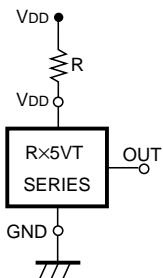

FIG.9
1. When Rx5VT×C (CMOS Output) is used in FIG. 9, this IC may oscillate by the through-type current at the detection when impedance is connected between Power Source VDD and Rx5VT VDD Pin. When Rx5VT×A (Nch Open Drain Output) is used in FIG. 9, and R becomes excessively large, Detector Threshold may be varied because of the voltage drop of the supply current in the IC itself.